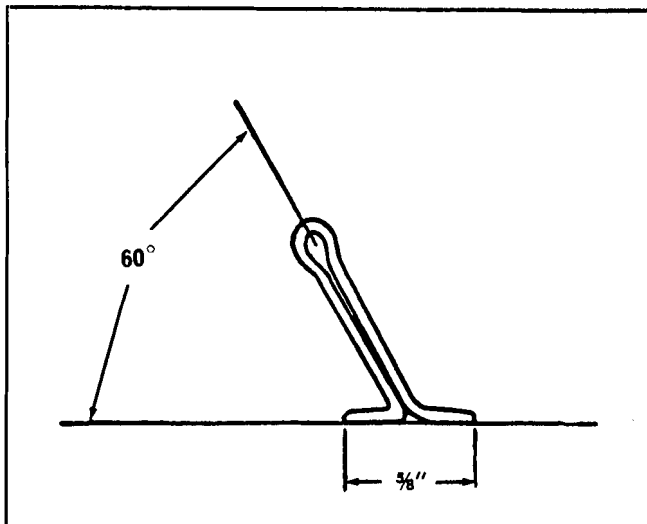

Fig. 6-146 Tool for Removing Upper Half of Main Bearing
- 4. Make a tool for removing upper half of bearing shell as shown in Fig. 6-146.